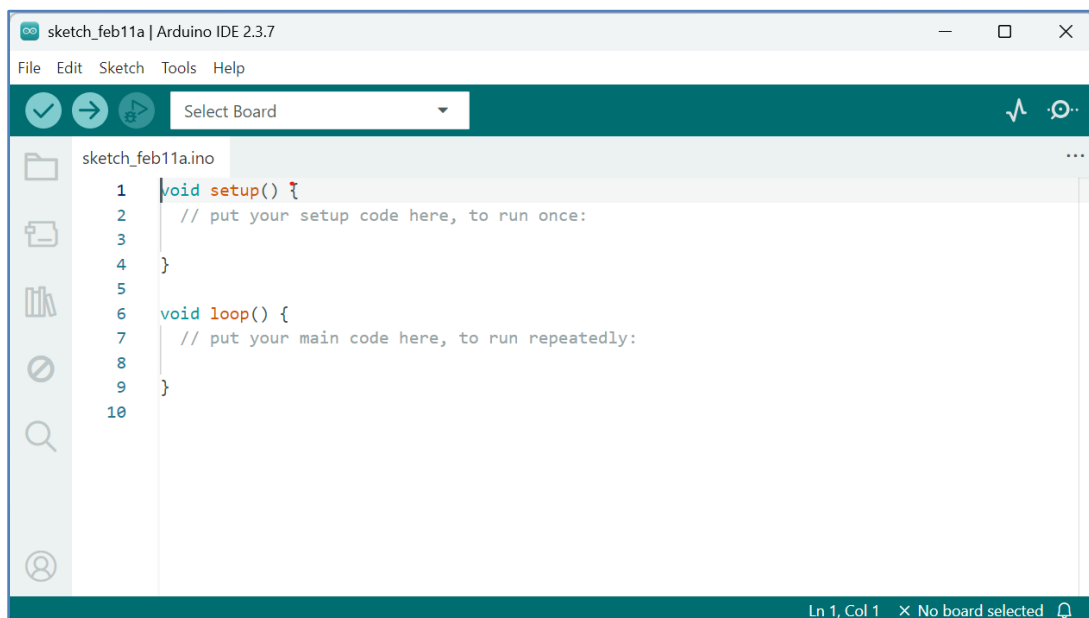

Fig. 11 IDE Environment (text editor)
1. Open the Arduino Uno IDE 2.3.7 (version may be updated automatically on your computer) and a blank sketch will open. The window as in Fig. 11 will come up on your PC:
2. **To do Assembly Experiments based on programs of Parts 1 and 2:** Write the program by copying the codes given below boxes in sequences on the blank sketch of Fig. 11 for the LED blink and control by using assembly language programs.